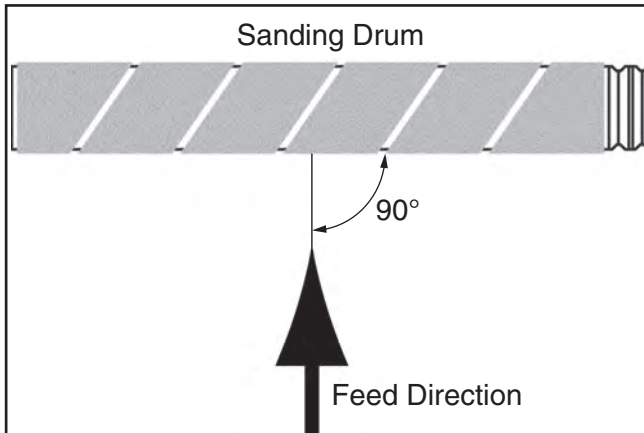
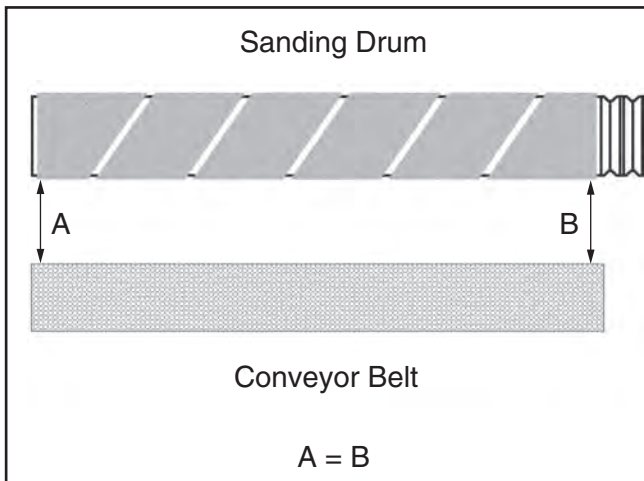

Figure 37. Feed direction perpendicular to sanding drum (viewed from top of machine).
Figure 38. Sanding drum parallel to conveyor belt (viewed from front of machine).
For the Model G1066R/G1066Z/G1079R Drum Sander to function properly, the sanding drums must be aligned in two directions: (1) perpendicular to feed direction (see **Figure 37**) and (2) parallel to the conveyor belt (see **Figure 38**).